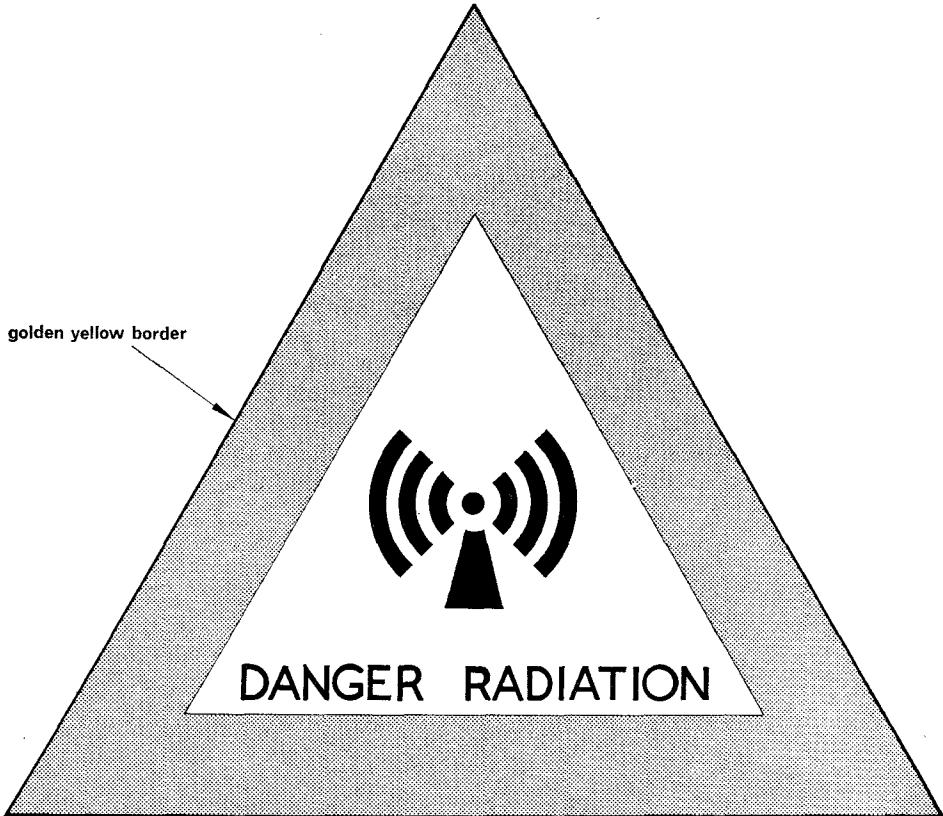

Fig. 14 Safety sign for electromagnetic radiation
26. **Safety sign.** The use of electronic and electrical apparatus which can produce electromagnetic fields at high radio frequencies, or other radiation of a non-ionizing nature, that may affect health, is increasing. Examples of such equipments are high power radio transmitters, microwave radars, infra-red 'searchlights' and lasers. A distinctive sign (*see* Fig. 14) has been produced by British Standards to indicate the actual or the potential presence of such radiation. The symbol and lettering are black on a white background surrounded by a golden yellow triangle.